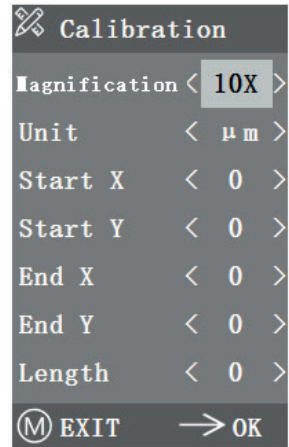

Figure 5-7
- Enter the Calibration menu, as shown in Figure 5-7.